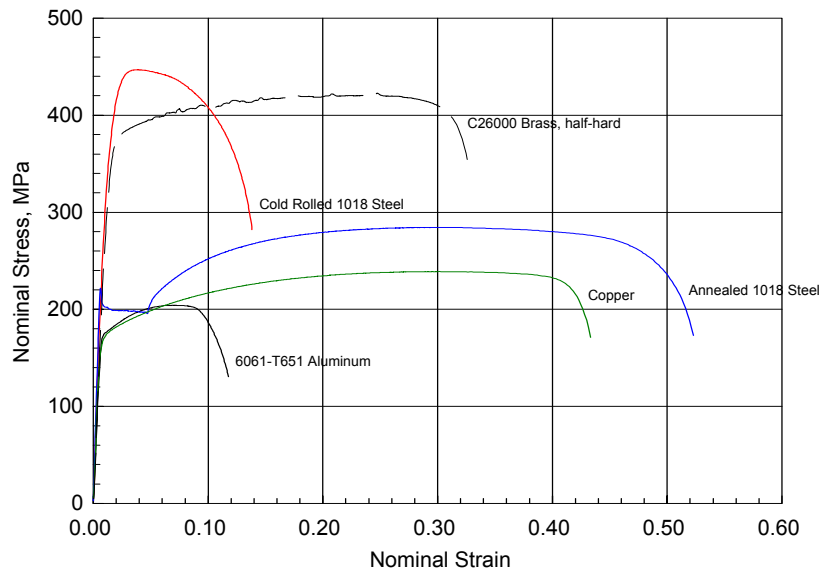

Figure 1 Examples of stress-strain curves for the types of materials tested in this laboratory.
- The most effective way to present the stress-strain data from the four materials tested is to put them all on the same graph. This can be done using the Instron software or you can import each data file into a spreadsheet and create the graph yourself. This graph can be easily cut and pasted into your report. See figure 1 for an example.